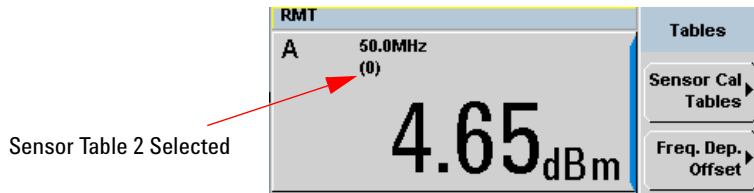

Figure 8-142 Frequency dependent offset indicator
- 4 Press **Done** again to display the measurement screen. **Figure 8-142** shows which offset table is selected.